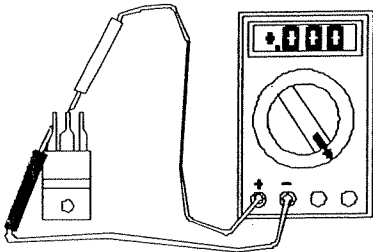

Figure 3: Verifying "ON"
5) Move the red lead back to the DRAIN and the meter should indicate a short circuit. (See Figure 3)